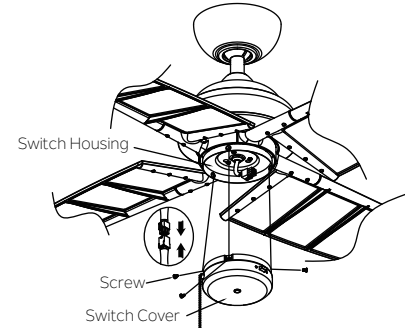

Fig. 18
Step 1. Hold the switch cover close to the switch housing and connect the 9-pin connectors from switch cover and fan. (Fig. 18)
Note: The two connectors can only fit in one way with colors for identification. Match up the colors on two connectors, then push them together until the snap engages. (Fig. 18)
Step 2. Tuck the connections neatly into the switch cover. Align three round holes on the switch cover and switch housing. Securely tighten with 3 screws found in switch cover hardware pack. (Fig. 18)